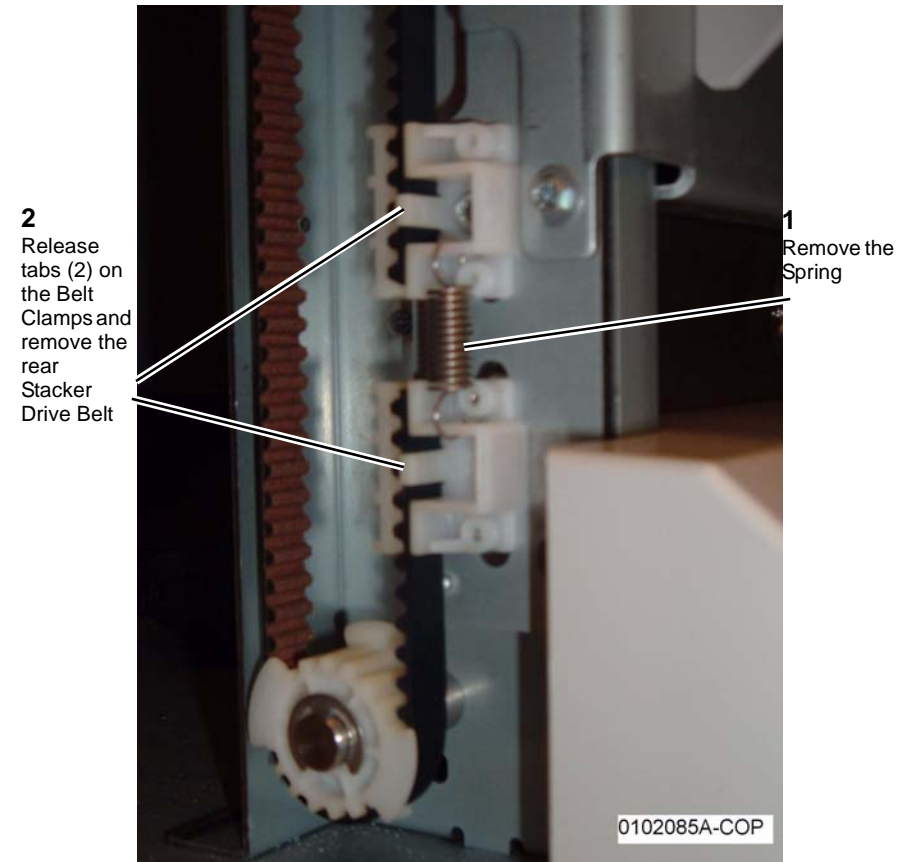

Figure 2 Removing the front Stacker Belt
8. Remove the front Stacker Drive Belt (Figure 2).
1. Reinstall components in the reverse order of the removal procedure. Refer to Figure 2 and Figure 1 for Stacker Drive Belt positioning in the Belt Clamps.